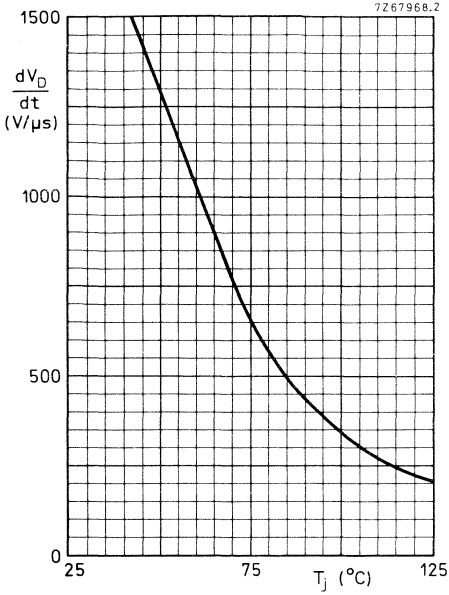

Fig.3 Maximum rate of rise of off-state voltage that will not trigger any device (exponential method) as a function of T_j .
* To ensure thermal stability: $R_{th j-a} < 4$ °C/W (d.c. blocking) or < 8 °C/W (a.c.). For smaller heatsinks T_{jmax} should be derated. For a.c. see Fig. 3 (BTW38 data).